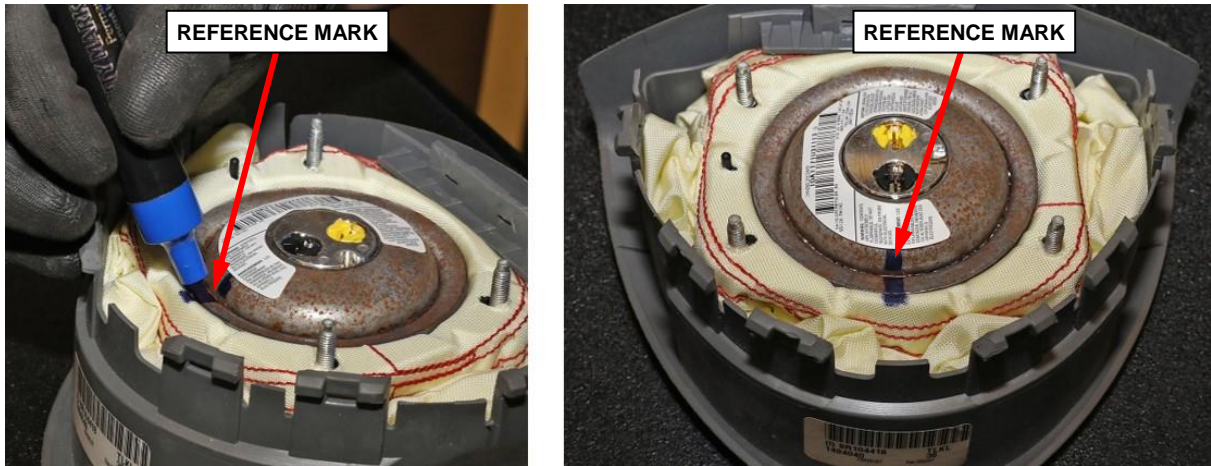

Figure 12 – Mark Inflator Orientation
7. Mark the inflator orientation to the air bag cushion in case it becomes separated from the air bag cushion (Figure 12).